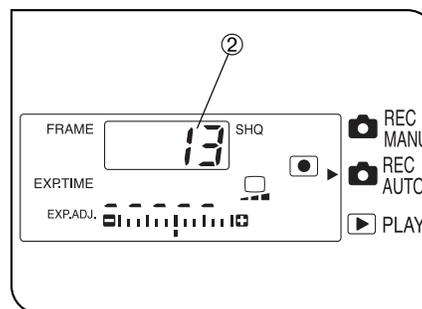

Fig. 8
- The LCD panel shown in Fig. 8 shows the setup before turning power ON and the number of remaining pictures ② in the current picture quality mode (see page 21).